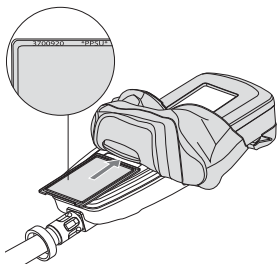

Fig. 52 Fitting the LCD protective cover
9. Fit the protective cover over the LCD screen (Fig. 52).
! Use the partly fitted rubber cover to hold the protective screen in place. Ensure that the cover is orientated as shown, with the notch towards the bottom of the screen and the part number facing upwards (Fig. 52).